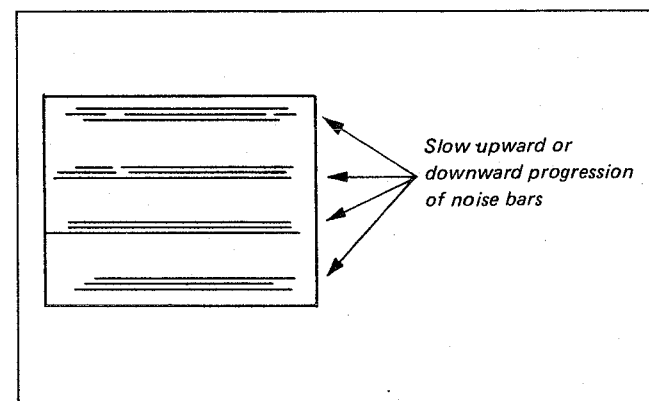

Fig. 5-12. PICTURE SEARCH, capstan DC bias adjustment
- i) Set up the picture search (forward) mode and adjust with RV308 so that the progression of noise bars becomes as slow as possible. (See Fig. 5-12.)